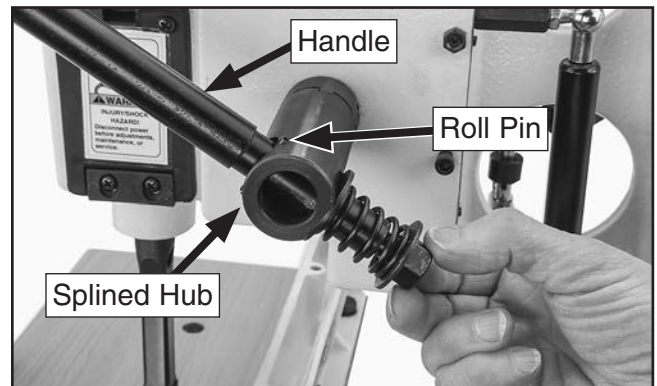

Figure 9. Attaching handle assembly to splined hub.
2. Install handle assembly so roll pin aligns with splined hub, then install (2) 12mm flat washers, (1) compression spring, and M12-1.75 hex nut onto end of handle, as shown in **Figure 9**.